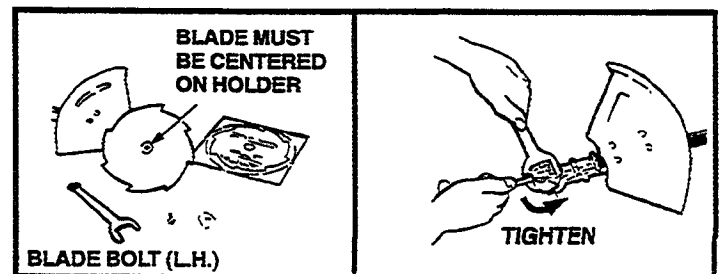

Figure 7
Remove bolt (LH), star washer and small flat washer at the bottom of gear case (Figure 7).
- Remove holder (B) and place blade on holder (A) making sure that arbor hole in blade is centered on the arbor embossment on holder (A).
- Install holder (B) making sure that the splines line up and holder is completely seated.
- Re-install small flat washer, star washer, and bolt (note: bolt is left hand thread) and is turned counterclockwise to tighten (Figure 7).